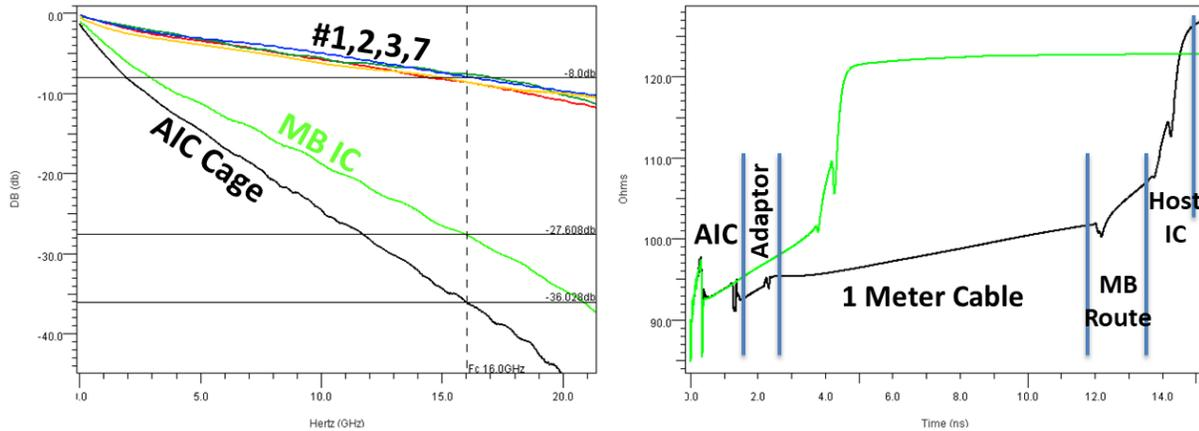

Figure 3: Simulations of Gen5 Loss Budget Scenarios
In practice, because Gen5 system interconnects are generally IL-constrained and hence IL-linear, the simple summations shown in Table 1 work quite well. To illustrate this, simulated IL in Figure 3 (left) confirms that items 1, 2, 3, and 7 in Table 1 are approximately 8 dB. Combining these elements to simulate IL for system scenarios/columns “MB IC” (green) and “AIC Cage” (black) yields the anticipated sums of 28 and 36 dB respectively. A TDR of both scenario’s impedance discontinuities *as viewed from the Rx* (right, same colors) reveals that even though all system segments are visible, and hence non-ideal, the significant amount of IL damps these discontinuities to allow linear summation. Even though a small amount of non-linearity can be
One interesting fact seen in Figure 3’s TDR is that, per Table 1, *each delineated segment has the same IL* (with the exception of “Adaptor” which has half the IL of the others). That noted, it should be obvious that *cables, rather than PCB, are the best way to achieve distance* when IL limits, system modularity, and reach might require it.